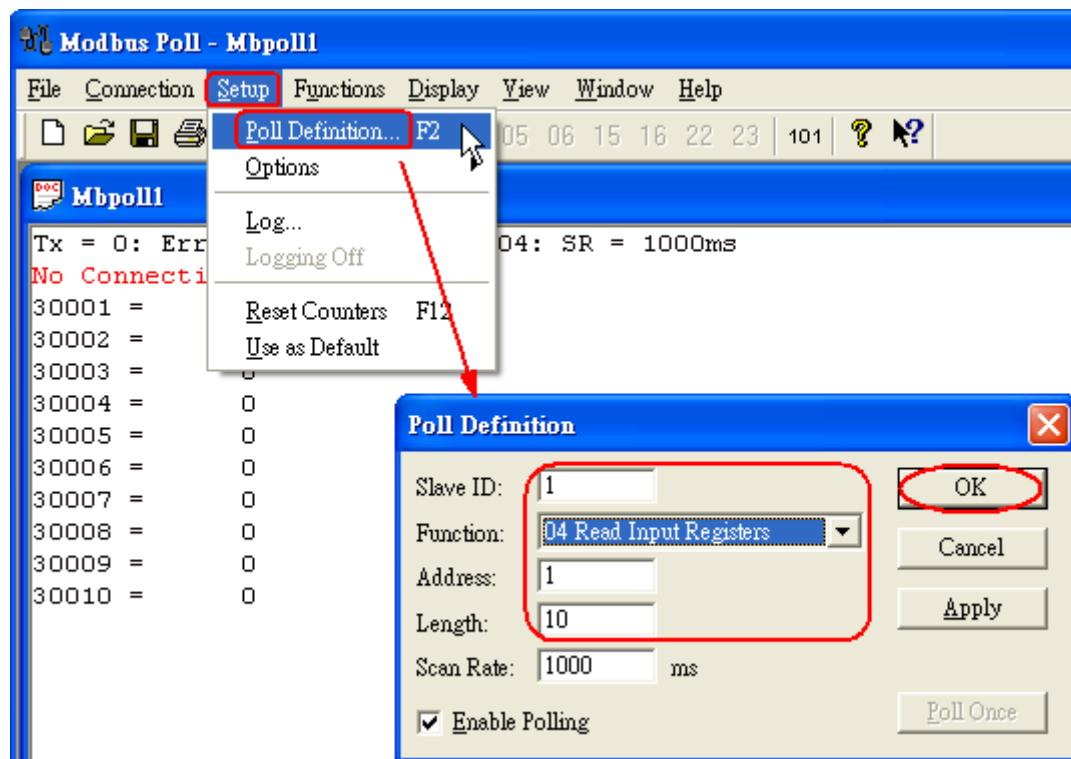

Figure 3-15 Modbus Parameters of “Modbus Poll” tool
- [2] The below MB/RTU client will use the “Modbus Poll” tool to show the CMD(3) data of HART device by polling Modbus address 0 ~ 9.
- <2> Set the “Modbus” parameters like Figure 3-15.